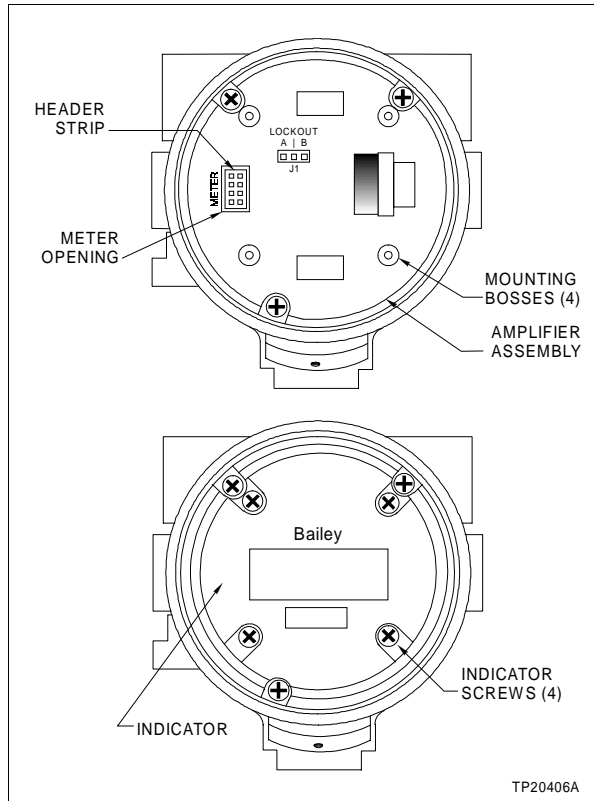

Figure I2-1. Adding the Indicator
2. Remove the header strip from the indicator and install it in the main board connector in the amplifier assembly, which is accessible through the meter opening (Fig. I2-1).
- a. Align one of the connectors on the back of the LCD with the meter opening in the amplifier assembly to get the desired viewing orientation (Fig. I2-1).